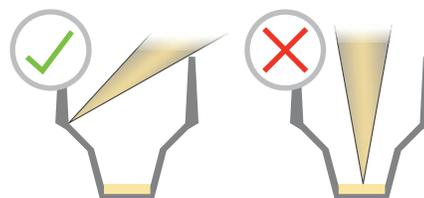

Figure 8. Pipette tip placement.
- d. When adding media, place the pipette tips high on the well wall and dispense gently (Figure 8). This minimizes disruption to the monolayer and reduces detachment of cells from the well surface, especially loosely adherent cells.